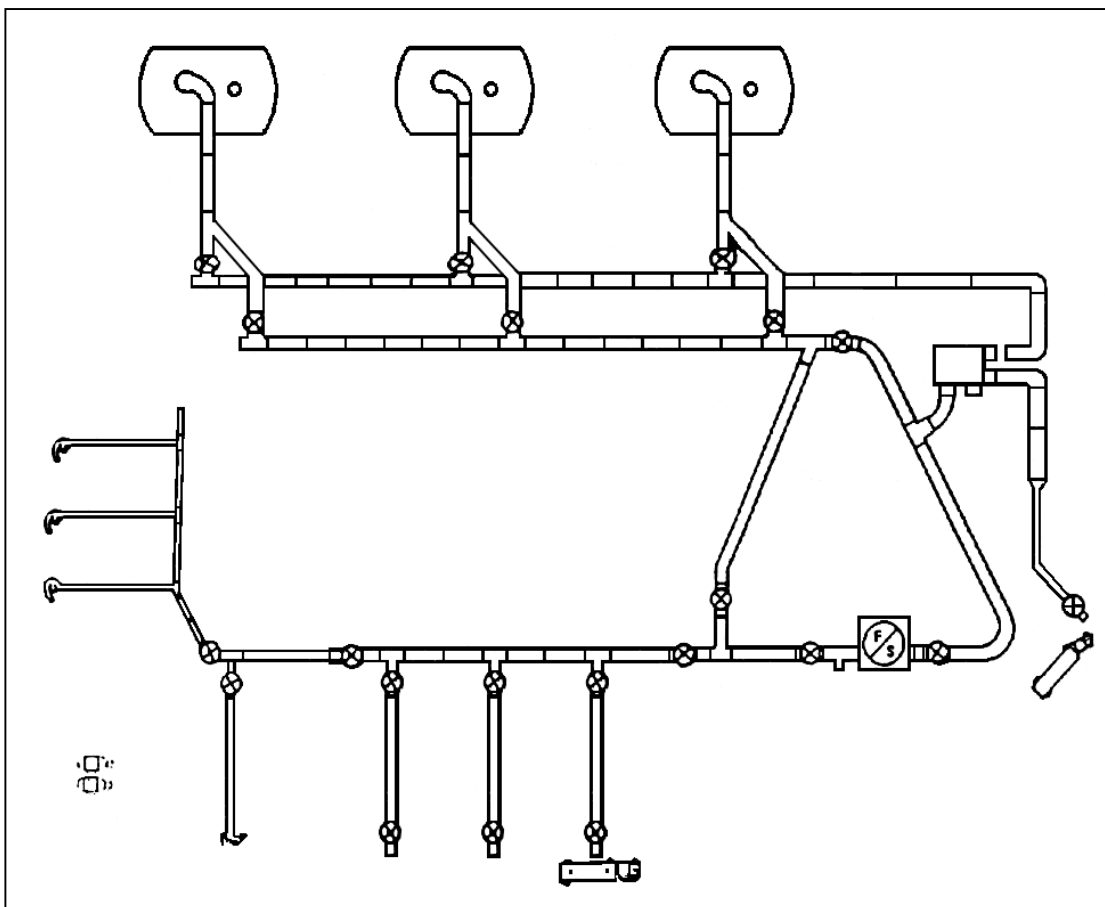

Figure 4-2. FSSP layout.
**Selection Criteria for FSSP.** When you select the FSSP site, consider cover and concealment, road nets, dispersion factors, terrain, and site preparation requirements. Make sure the site is suitable for the fuel system layout (Figure 4-2).